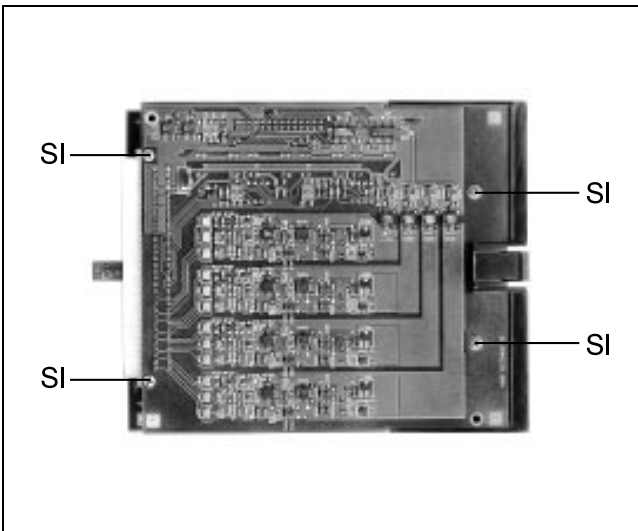

Fig. 15 Undo the screws *SI* of the channel card (bottom view)
5. Undo the 4 screws *SI* (see fig. 15).
8. Fasten channel card *Kk* with the 4 screws *Sl* (see fig. 15).